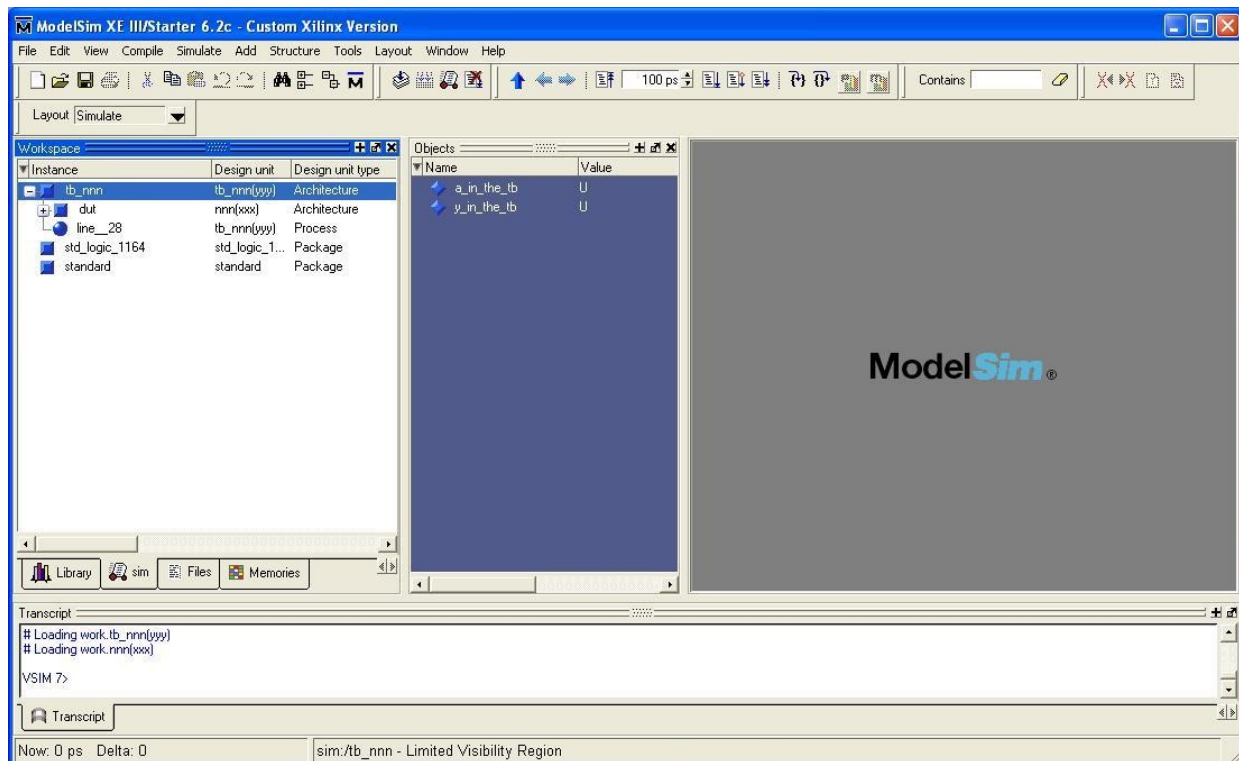

Figure 3: Workspace and Objects windows in ModelSim
4. Make sure that ModelSim presents the “Workspace” and the “Objects” windows, as shown in figure 3
5. You can further see in figure 3 that when you highlight the testbench (tb_nnn) in the “Workspace window, the Objects window presents the signals contained in the testbench (see tb_nnn.vhd for more details !).